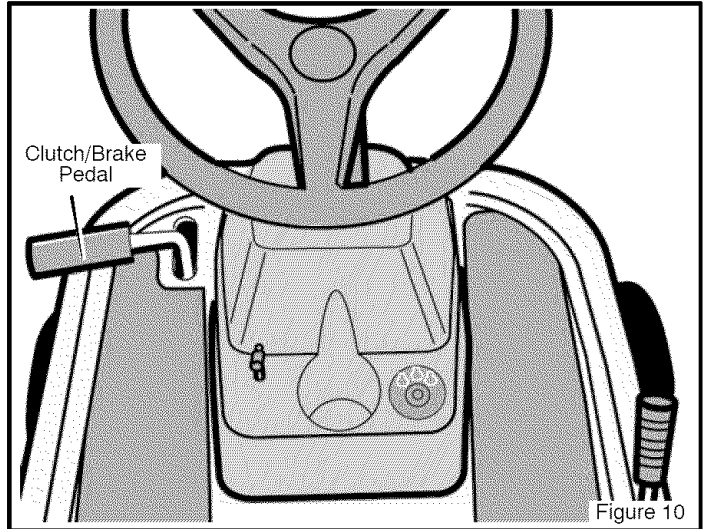
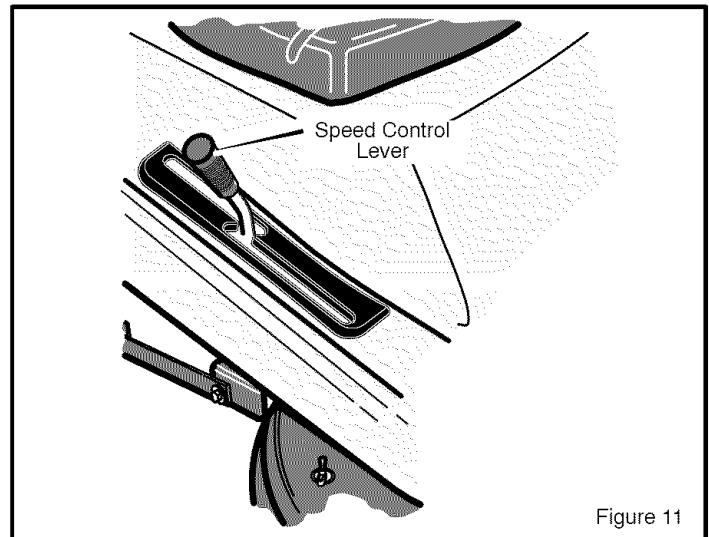

Figure 10
Figure 11
The Hydrostatic Drive is very easy to operate. The drive system has a clutch/brake pedal on the left side (see Figure 10) and a speed control lever on the right side (see Figure 11).
The speed and direction of travel is controlled by the speed control lever (see Figure 11). Use the speed control lever to select either forward or reverse.
2. Completely push the clutch/brake pedal forward to stop the unit (see Figure 10). Keep your foot on the pedal.
3. Move the speed control lever to NEUTRAL position (see Figure 11).
4. Slowly release your foot from the clutch/brake pedal (see Figure 10). Do not keep your foot on the clutch/brake pedal.
6. Slowly push the **speed control lever** forward to the desired speed (see Figure 10). To reduce forward speed, slowly pull the **speed control lever** to the desired speed.
2. Move the speed control lever to the NEUTRAL position (see Figure 11).